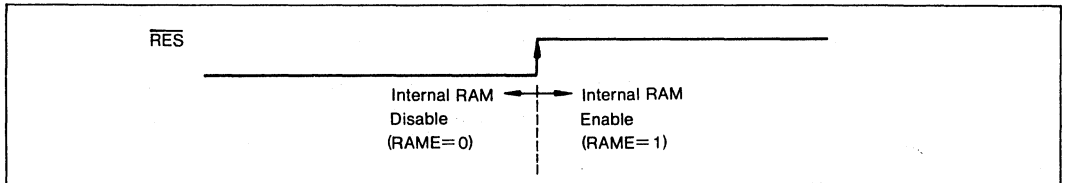

Figure III-25. RAME at Reset
**Answer:** It is set at the rising edge of  $\overline{\text{RES}}$  (figure III-25).